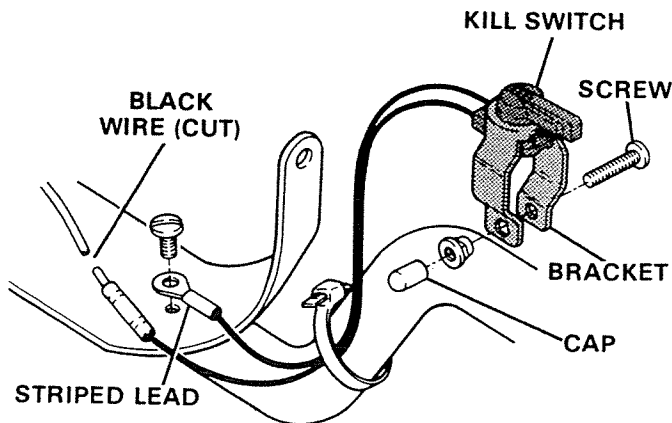

Figure 6. Removing or Installing Kill Switch.
2. Remove screw and nut and pull switch from mounting location. Figure 6.